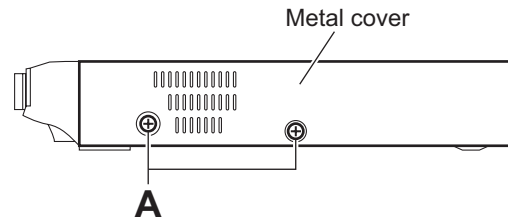

Fig.1
(See Figs.1 to 4)
- (1) From the both sides of the main body, remove the four screws **A** attaching the metal cover. (See Figs.1 and 2.)